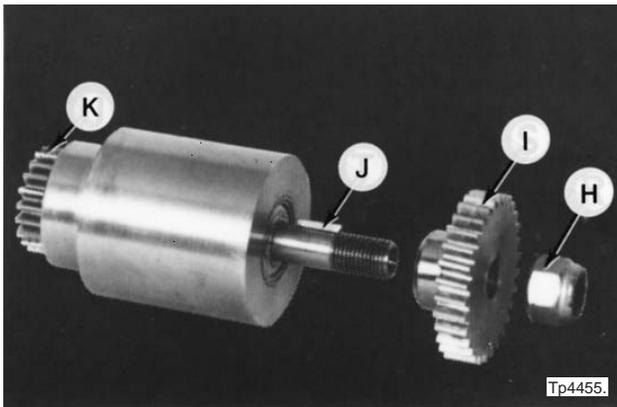

Figure 3.49 - Worm Wheel Housing and Components
21. Remove key "J", Figure 3.49, and remove 21 tooth gear and shaft "K".
2. Replace 21 tooth gear and shaft "K", Figure 3.49, and key "J".